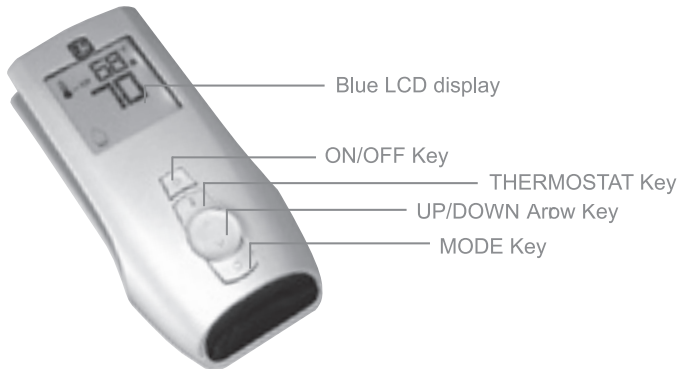
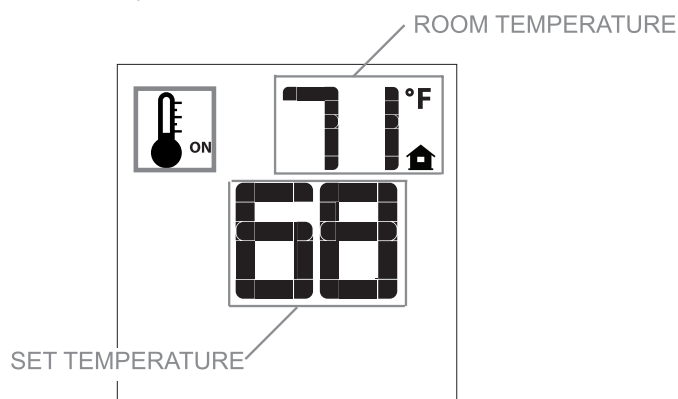
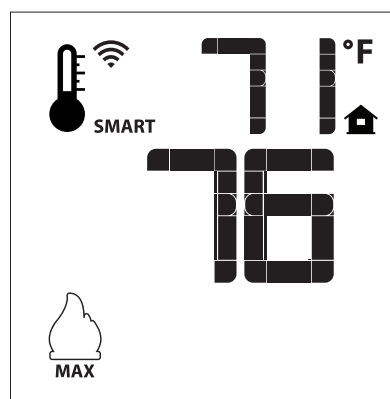
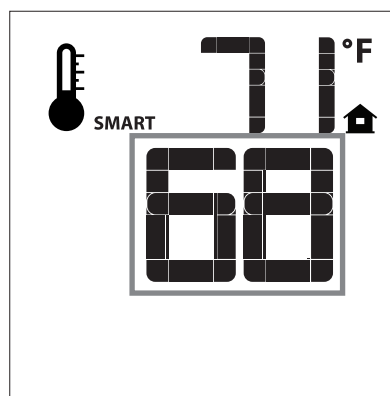

Figure 24 - Proflame Transmitter
Figure 34a
Figure 35
Figure 36
NOTE: A small toggle switch is located on a bracket that is used to switch from IP (left position) to the CPI (right position). See **Figure 24**.
3. The gas valve has inlet and outlet pressure taps as shown in **Figure 24**. Refer to pages 15 - 16 for gas pressure requirements.
The Proflame Transmitter uses a streamline design with a simple button layout and informative LCD display **See Figure 24.**
The Transmitter is powered by 3 AAA type batteries. A Mode Key is provided to Index between the features and a Thermostat Key is used to turn on/off or index through thermostat functions. **See Figures 24 and 25.**
To activate this function, press the Thermostat Key. **See Figure 24.** The LCD display on the Transmitter will change to show that the room thermostat is "ON" and the set temperature is now displayed. **See Figures 34a and 34b.** To adjust the set temperature, press the Up or Down Arrow Keys until the desired set temperature is displayed on the LCD screen of the Transmitter.
To activate this function, press the Thermostat Key (**See Figure 24**) until the word "SMART" appears to the right of the temperature bulb graphic. **See Figure 35.** To adjust the set temperature, press the Up or Down arrow Keys until the desired set point temperature is displayed on the LCD screen of the Transmitter. **See Figure 36.**